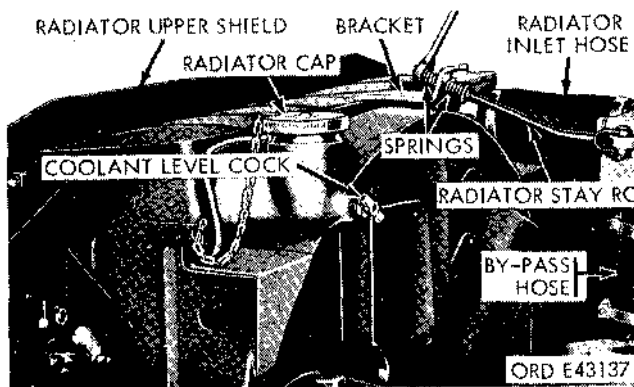
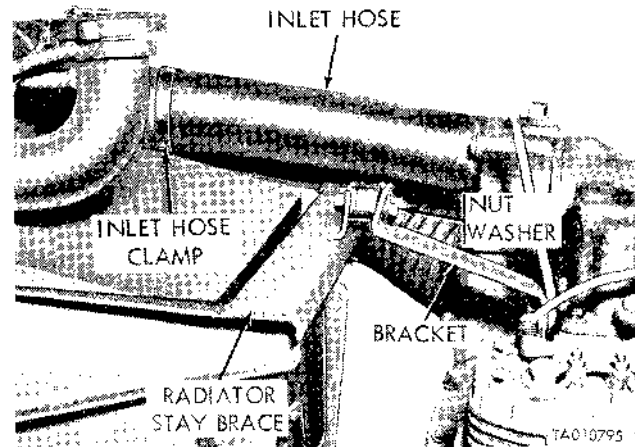

Figure 2-123. Upper section of radiator—left rear view.
Figure 2-124. Upper section of radiator—multifuel models.
(1) Drain the cooling system. Refer to TM 9-2320-211-10.
(2) Remove the brush guard (para 2-236).
(3) Loosen the nut at the front end of the stay rod (fig. 2-123). Pull the stay rod front end upward, and remove the rod from the bracket. On multifuel models, remove the nuts and washers at the front of the stay brace (fig. 2-124).
(4) Loosen the front clamp on the inlet hose (fig. 2-123).
(5) Loosen the front clamp on the outlet hose on the lower right side.
(6) Loosen the two nuts and bolts securing the radiator upper shield. Pull the upper shield (fig. 2-123) forward, and remove it from the brackets.
(7) Loosen the bolt at the top left side of the frame strap from the crossmember. On multifuel models, remove the ground strap from the radiator shroud.
(1) Be sure that the two radiator support spacers are installed on the left and right mounting studs on the bottom of the radiator; then insert the radiator mounting studs in the holes in the engine front mounting support.
(2) Install the springs (rubber mounts on multifuel models), washers, and nuts on the radiator mounting studs from the underside of the engine front mounting support. Tighten the nuts evenly. Do not completely compress the springs.
(3) Slide the radiator ground strap terminal under the head of the ground strap retaining bolt and tooth type lockwasher at the top left side of the frame front crossmember, and tighten bolt. On multifuel models, connect the ground strap to the shroud.
(4) Tighten the clamp to secure the outlet hose at the lower right side.
(5) Tighten the front clamp on the inlet hose (fig. 2-123).
(6) Place the front end of the stay rod (fig. 2-123) in the bracket, and tighten the nut. On multifuel models, install the washers and nuts to secure the stay brace at the front. Do not completely compress the springs.